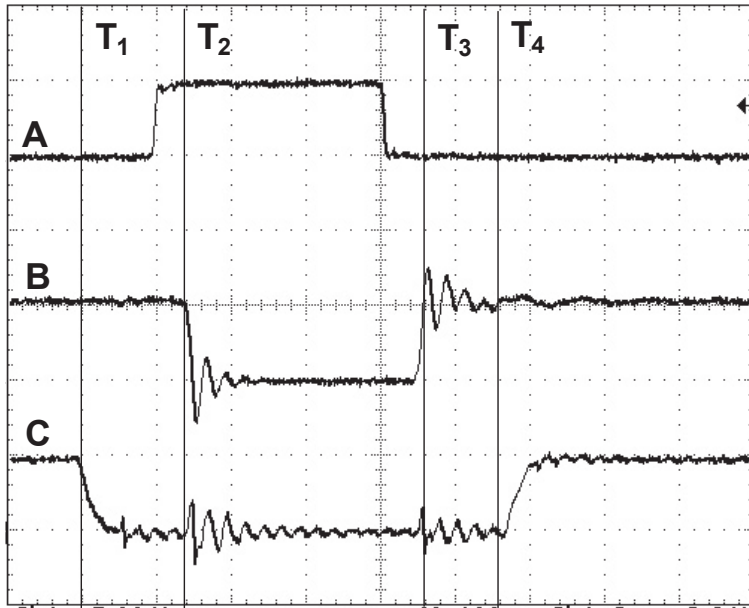

Figure 17
The real time gating of the FN function is illustrated in Figure 17. At T_1 the FN trace (C) is deactivated and at T_4 it is reactivated.